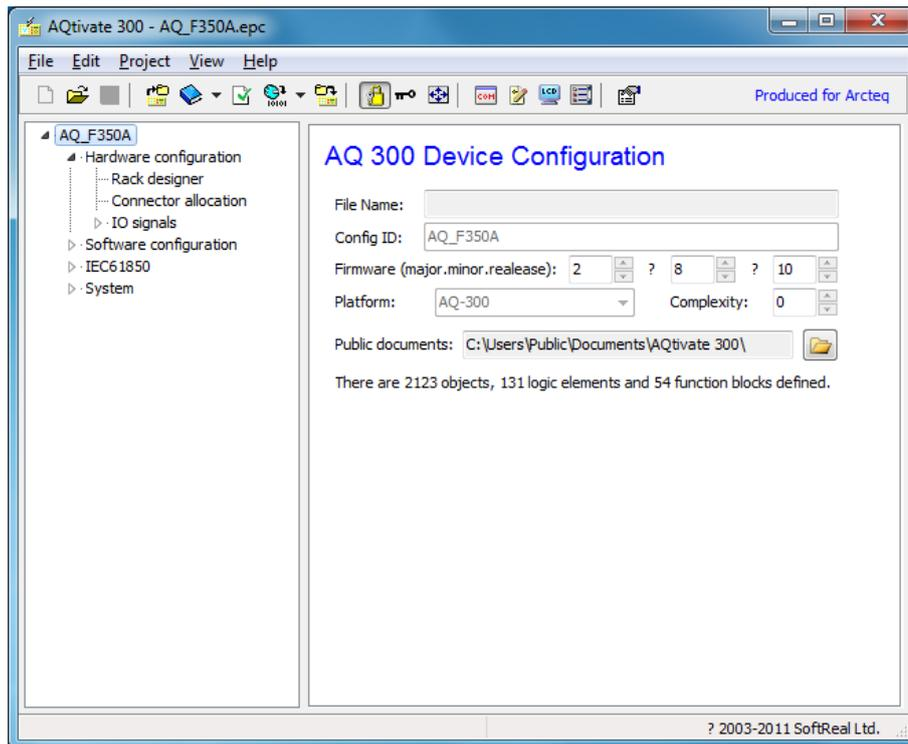

Figure 1-3 The “AQ-300– New configuration” main window
After selection and successful uploading (or after opening a stored *.epc file), the window shown in Figure 1-3 opens automatically.
- some basic information about the configuration (right side of the window, see Figure 1-3)